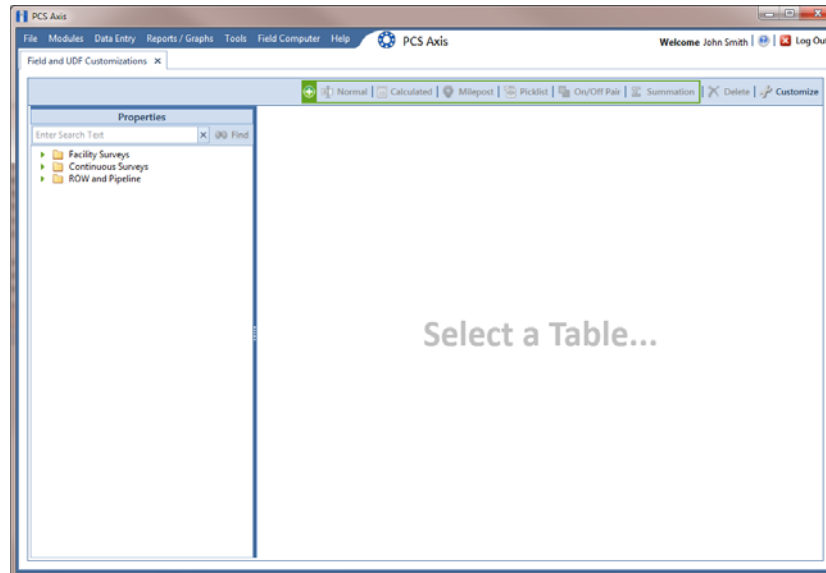

Figure 3-25. Field and UDF Customizations
- 1 Click **Tools > Field and UDF Customizations** to open the *Field and UDF Customizations* window (Figure 3-25).
- 1 Click **Tools > Field and UDF Customizations** to open the *Field and UDF Customizations* window (Figure 3-25, page 65).
- 1 If the *Field and UDF Customizations* window is not open, click **Tools > Field and UDF Customizations** (Figure 3-25, page 65).
- 1 Click **Tools** > **Field and UDF Customizations** to open the *Field and UDF Customizations* window (Figure 3-25, page 65).